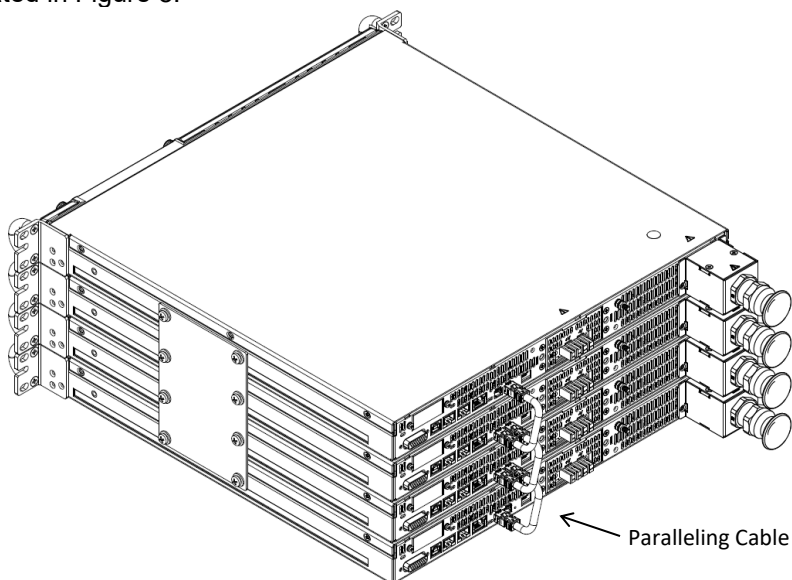

Figure 8: Four 150V-600V Units Paralleling Cable Connection
2. Connect three paralleling cables from top unit M connector to bottom unit S connector as illustrated in Figure 8.